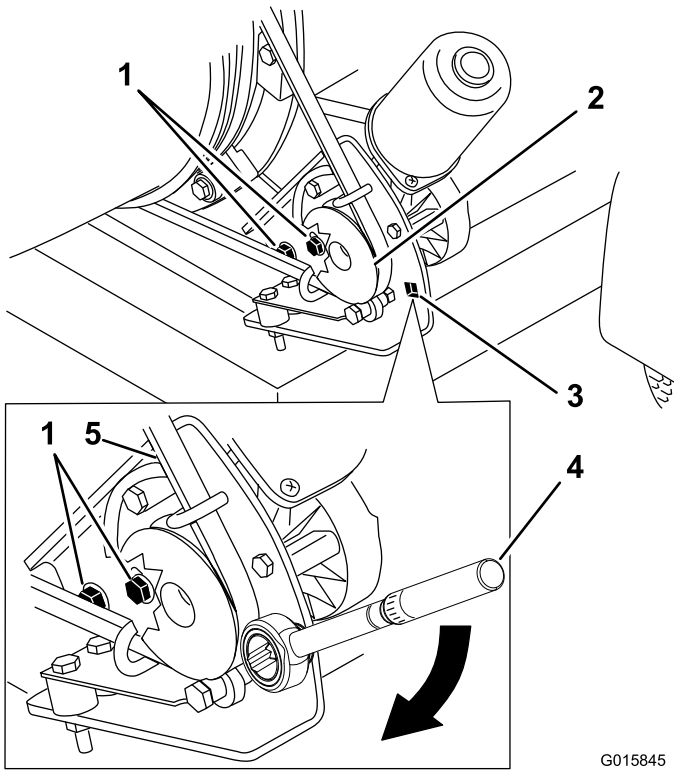

Figure 33
1. Loosen the bolts securing the pulley mounting bracket to the blower frame (Figure 33).
2. Position a torque wrench into the pulley mounting bracket (Figure 33).
3. Pivot the pulley mounting bracket away from the nozzle until the torque wrench reads 22.6 to 26.0 N-m (200 to 230 in-lb) (Figure 33).